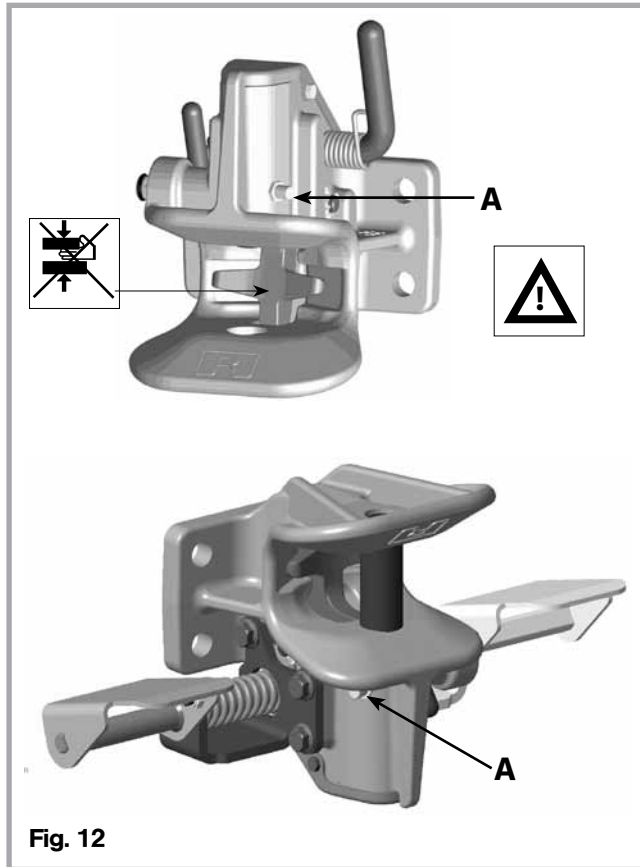

Fig. 12
- Under harsh operating conditions or severe exposure to dirt or water regrease automatic unit **(A) when coupling is open** (see fig. 12):